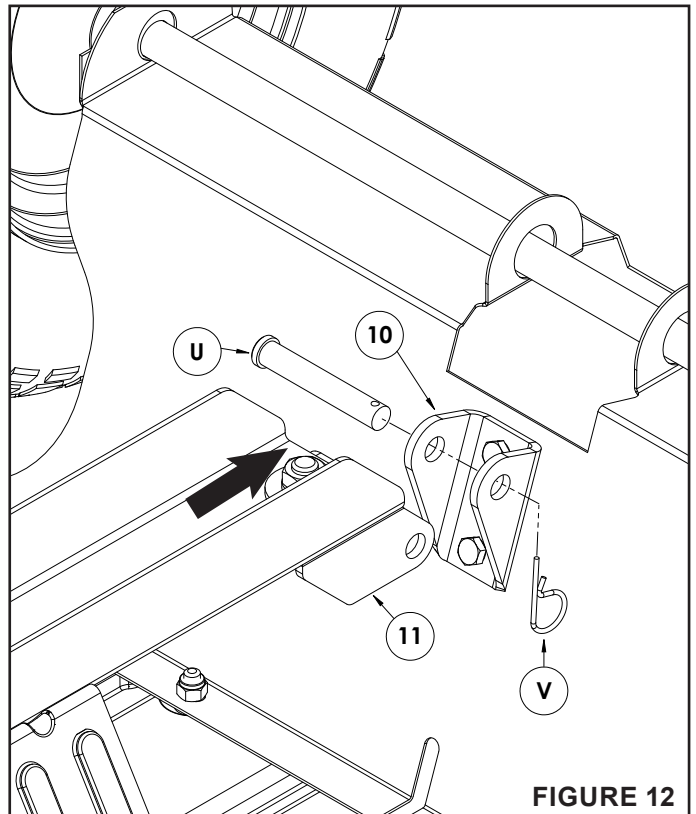

FIGURE 12
STEP 12: (SEE FIGURE 12)
- Install the pivot clevis (11) over the dump clevis (10).
- Secure with a 2-3/4" clevis pin (U) and a 1.81" hair pin (V).